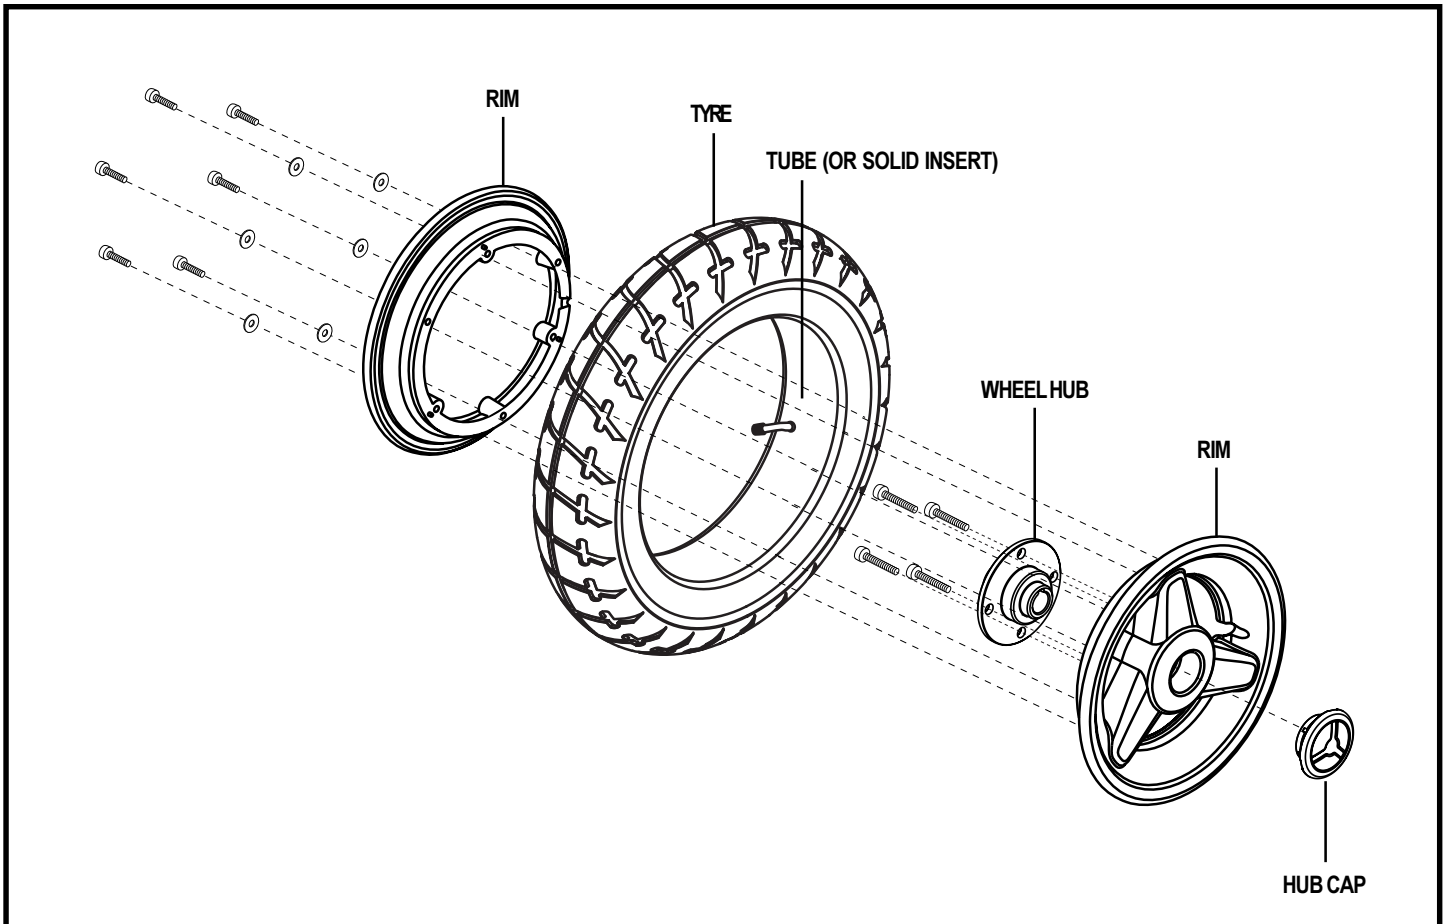

Figure 24. Tyre Replacement
4. Pry off the hub cap. See figure 24.